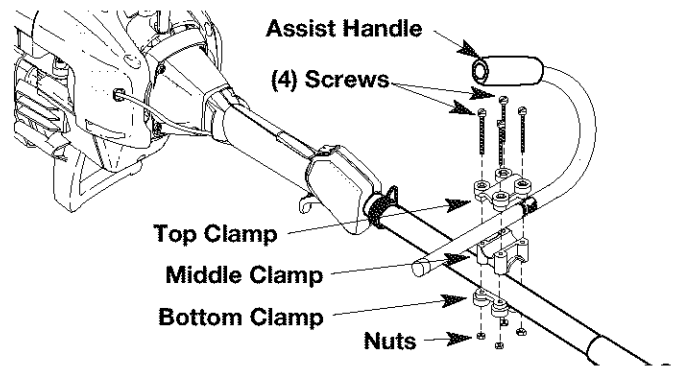

Fig. 1
2. Place the assist handle between the top and middle clamp pieces (Fig. 1).
3. While holding the three pieces together, install the four (4) screws through the top clamp and into middle clamp.